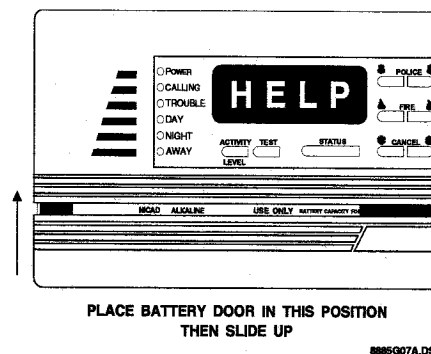

Figure 6. Positioning the Battery Door
- 1) Position the battery door on the panel as shown in Figure 6.